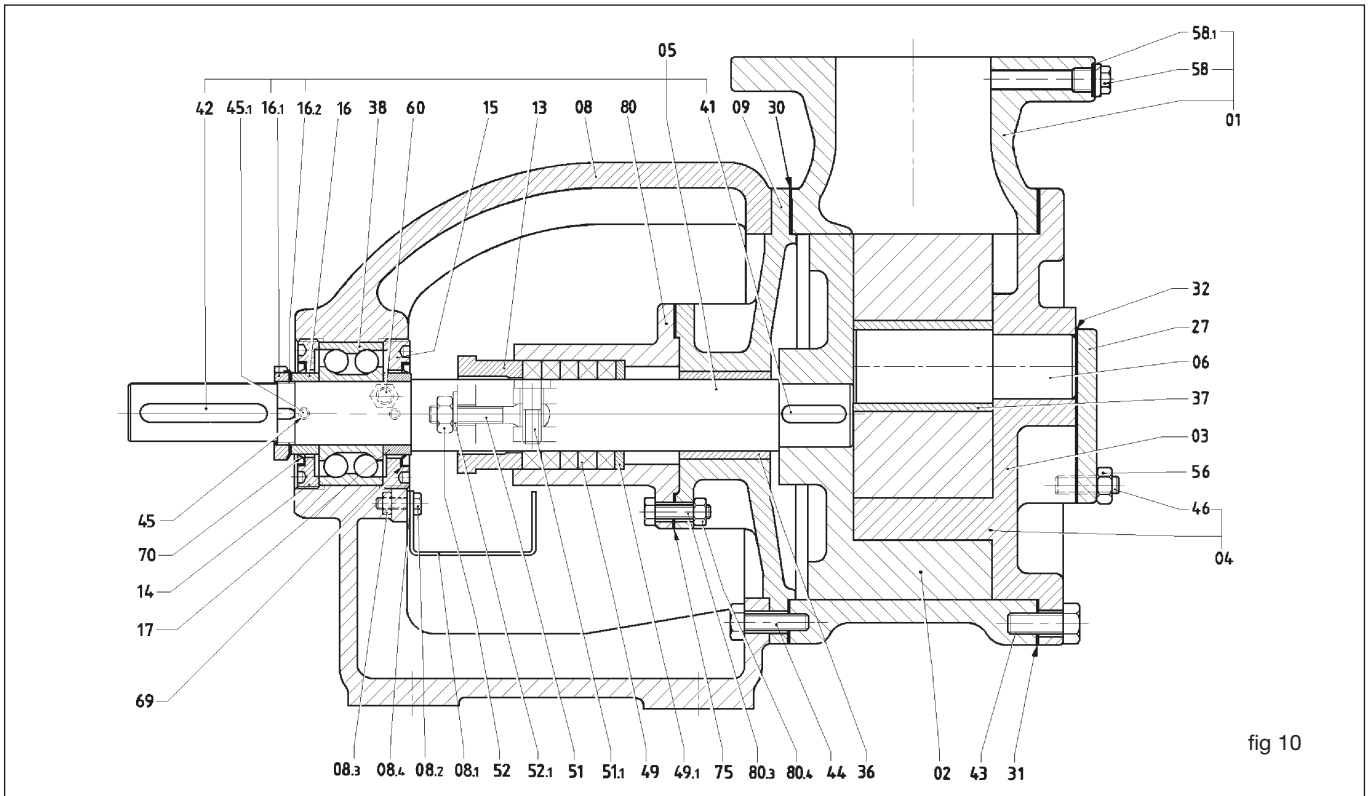

fig 10
**11.1 Removing the cover (04)** (see fig. 10)
- ❑ Unscrew the screws (43). Use the two threaded holes on the cover (if present) to facilitate removal of the cover.
- ❑ When removing the cover, take care not to damage the gasket (31). If this is damaged it should be replaced. Do not use damaged gaskets or gaskets with a thickness different from that of the original gasket (01).
**Attention:** when the cover is removed, the idler may fall off the idler pin (06) if it is not held. This is a potential cause of accidents.
**11.2 Removing the idler (03)** (see fig. 10)
- ❑ Slip the idler off the idler pin (06). The idler bush is fitted to the centre of the idler (37). (Some versions do not have an idler bush and mount a large diameter pin.)
**11.3 Removing the idler pin (06)** (see fig. 10)
**11.4 Removing the casing (01)** (see fig. 10)
- ❑ Remove the screws (44).
- ❑ Disengage the casing from the rear cover (09) taking care not to damage the gasket. If the gasket is damaged, replace it.
- ❑ The rear cover remains centred on the pedestal (08).
**11.5 Removing the ball bearing (38)** (see fig.10)
- ❑ Remove the key (42) from its seat on the shaft (05).
- ❑ Loosen the safety dowels (45).
- ❑ Remove the outer bearing cover (14) and the sleeve (16)
- ❑ Block the rotor (02) to prevent the shaft from turning.
- ❑ Force the shaft out of the bearing using a press. If a press is not available, use a bearing extractor. Bear in mind that the rotor (02), the rear cover (09) and the seal box (80) will also be removed together with the shaft.
- ❑ Unscrew the grease nipple (60), remove the inner bearing cover (15) and force the bearing out of the pedestal (08).
**11.12 Removing the shaft bush (36 fig.10)**
- ❑ Proceed as indicated in points 11.1- 11.2 - 11.4 - 11.5 for pumps with either mechanical seal or packed gland and remove the shaft from the rear cover (09).
- ❑ To remove the rotor (02) use a bench press.
### 12.1 Mounting the ball bearing (38) fig. 10
- Clean the seat on the pedestal (08) thoroughly.
### 12.2 Mounting the shaft bush (36) fig. 10
- Clean the seat in the rear cover (09) thoroughly. The shaft bush must be mounted using a press. It is perfectly symmetrical and can therefore be mounted in either direction. When mounting the bush in its seat, use a continuous movement. ONLY for the V 180 and V 200 (versions with Graphite Bushes), heat the rear cover to 80 degrees C before mounting the bush. Wait until it has cooled completely and use machine tools to bring it to the tolerance indicated by Varisco S.r.l..
### 12.3 Mounting the shaft and rotor (02) fig. 10
- Mount the rotor key (41) in its seat on the shaft and force the shaft into the rotor with a press. Do not mount the shaft key (42).
- Assemble the shaft (05) with the rear cover (09), the gland or seal box (80) and the bearing housing. This operation is easier to carry out with the pump positioned vertically resting on the rotor.